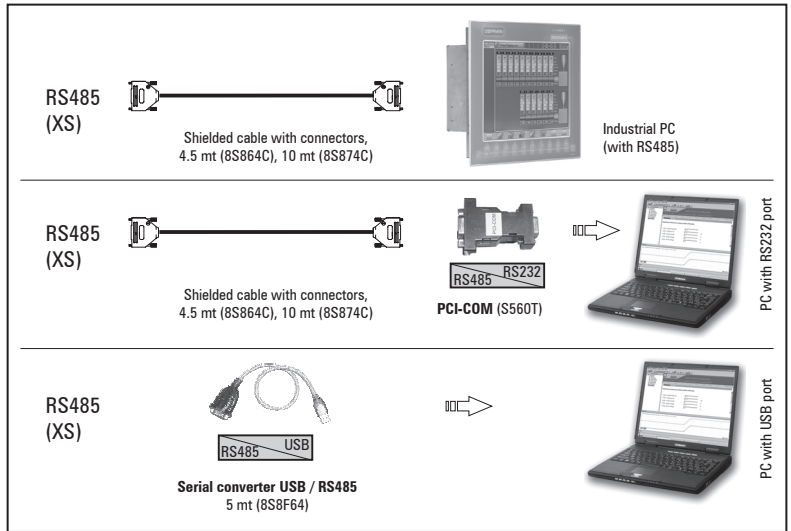

Figure 5.3.1.2: Collegamento RS485 al PC
- shielded cable for the **XS / RS485** connection (see figure 5.3.1.2), code 8S864C L=4.5mt or 8S874C L=10mt.
- shielded cable for **XS / PCI-COM** (or PCI-485) connection, code 8S864C L=4.5mt or 8S874C L=10mt, see figure 5.3.1.2 .
The following is required for connection: optional adapter USB/ RS485, code 8S8F64, see figure 5.3.1.2 .